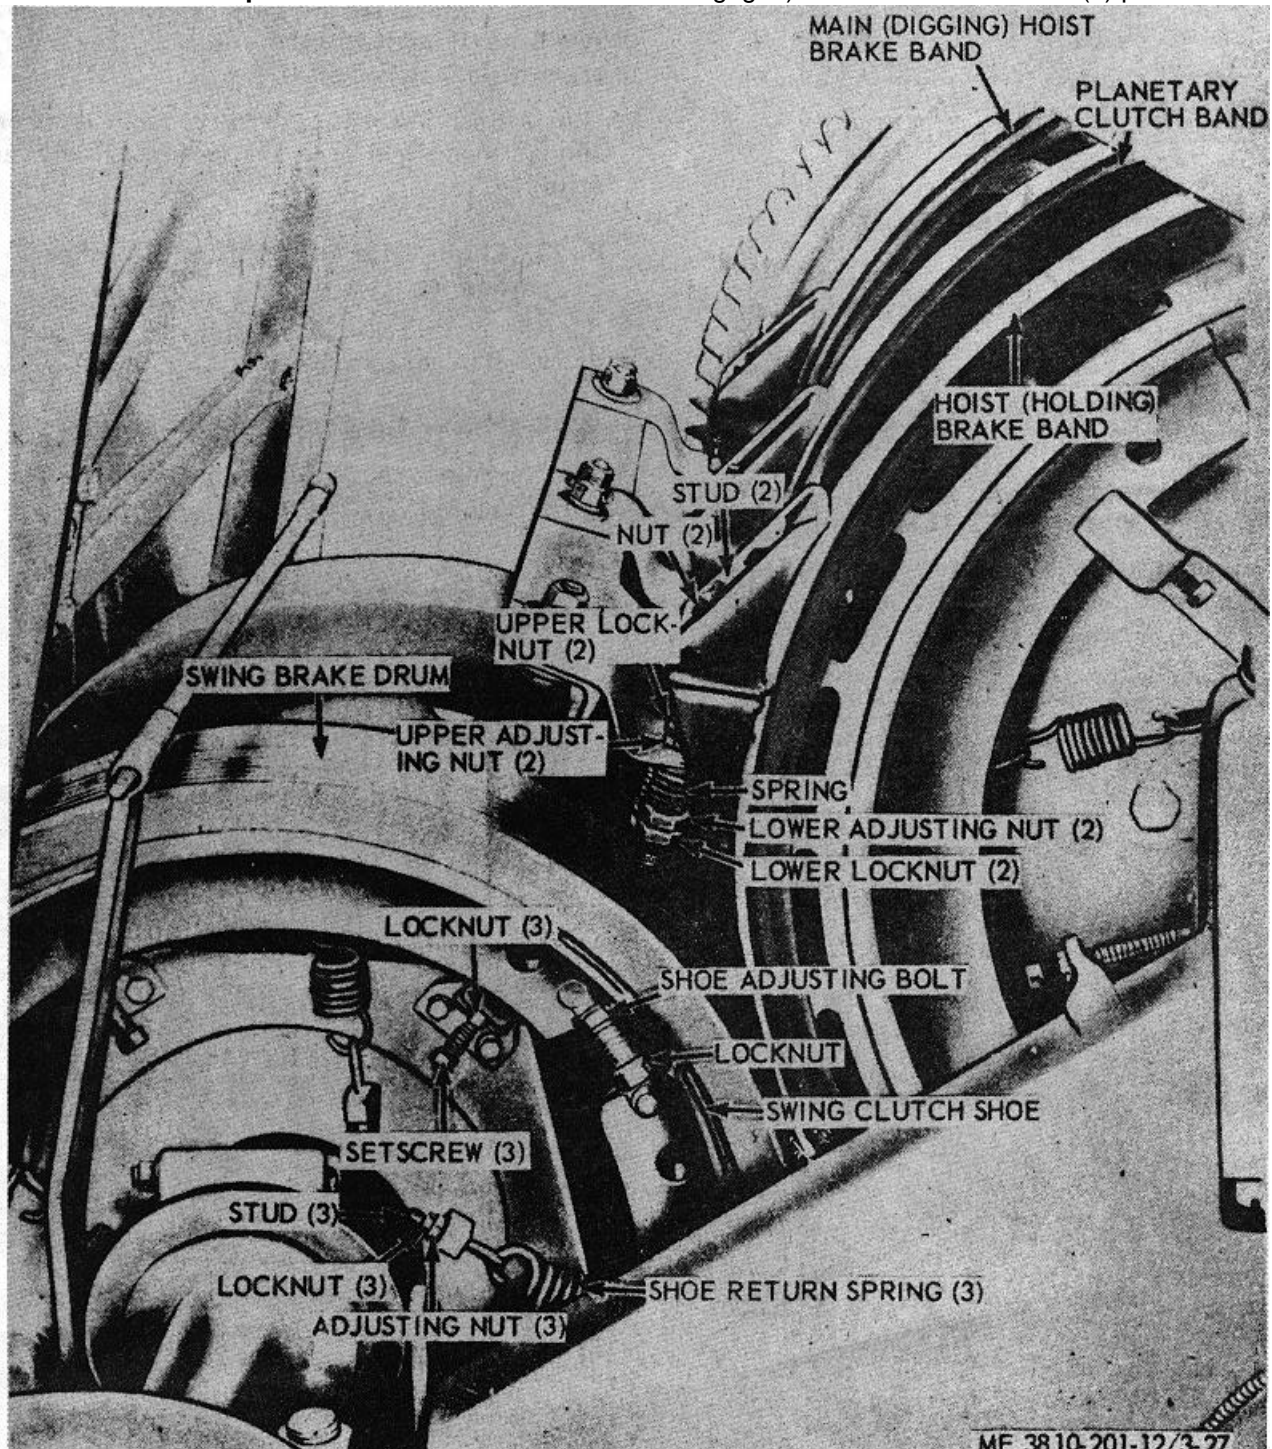

Figure 3-19. Swing clutch shoe lining wear adjustment and positioning of hoist drum clutch and brake bands.
(3) Compensation for lining wear is accomplished by loosening locknut (fig. 3-19) and turning the adjusting bolt until the clutch lining has proper clearance from clutch drum (0.012 to 0.015 inch).
b. *Installation Positioning.* Install band on two studs (fig. 3-19) on mounting bracket, and secure with two lockwashers and nuts.
c. *Positioning Prior to Adjustment.* Position band so that it does not drag on drum by backing off the upper and lower locknuts on both studs (fig. 3-19), then tightening or loosening the lower or upper adjusting nuts until there is clearance all around the drum. After band is positioned correctly, tighten the four locknuts on the two studs.